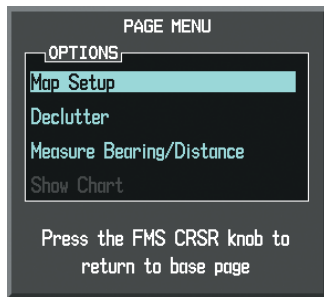

Figure 6-107 Navigation Map Page Menu
- 3) With Map Setup highlighted, press the **ENT** Key (Figure 6-107).